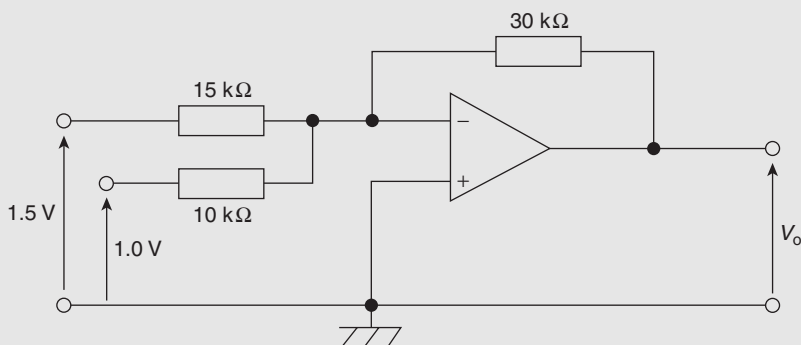

Figure RT5.1
- The power taken by a series inductive circuit when connected to a 100 V, 100 Hz supply is 250 W and the current is 5 A. Calculate (a) the resistance, (b) the impedance, (c) the reactance, (d) the power factor, and (e) the phase angle between voltage and current. (9)
- A coil of resistance $20\ \Omega$ and inductance 200 mH is connected in parallel with a $4\ \mu\text{F}$ capacitor across a 50 V, variable frequency supply. Calculate (a) the resonant frequency, (b) the dynamic resistance, (c) the current at resonance, and (d) the Q-factor at resonance. (10)
- A series circuit comprises a coil of resistance $30\ \Omega$ and inductance 50 mH, and a 2500 pF capacitor. Determine the Q-factor of the circuit at resonance. (4)
- The winding of an electromagnet has an inductance of 110 mH and a resistance of $5.5\ \Omega$. When it is connected to a 110 V, d.c. supply, calculate (a) the steady state value of current flowing in the winding, (b) the time constant of the circuit, (c) the value of the induced e.m.f. after 0.01 s, (d) the time for the current to rise to 75 per cent of its final value, and (e) the value of the current after 0.02 s. (11)
- A single-phase motor takes 30 A at a power factor of 0.65 lagging from a 300 V, 50 Hz supply. Calculate (a) the current taken by a capacitor connected in parallel with the motor to correct the power factor to unity, and (b) the value of the supply current after power factor correction. (7)
- For the summing operational amplifier shown in Figure RT5.1, determine the value of the output voltage, V_o (3)